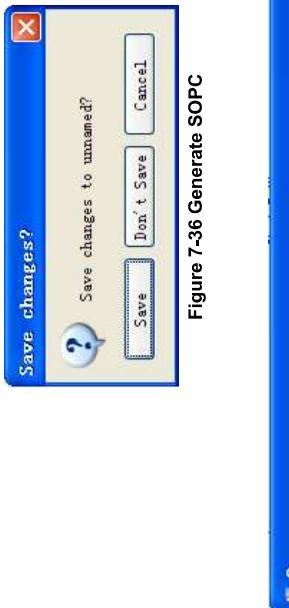
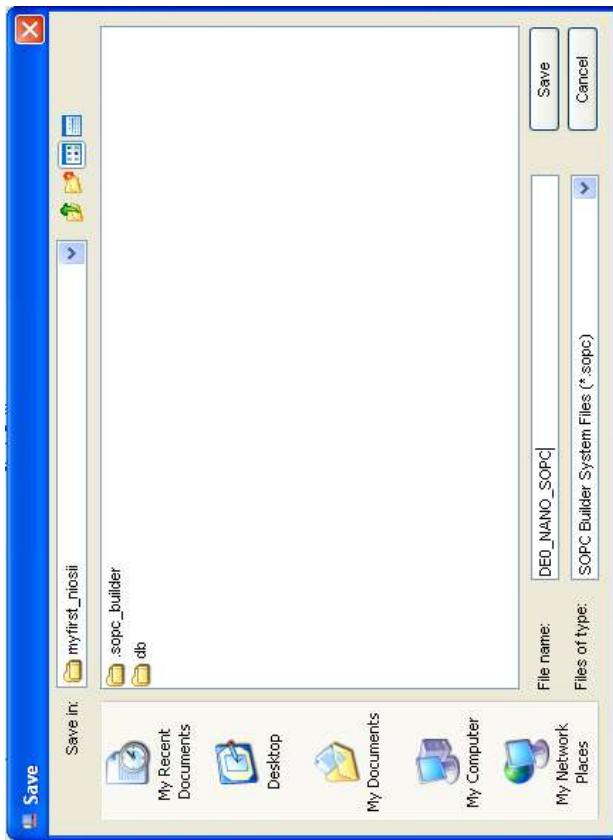

Figure 7-36 Generate SOPC
Figure 7-37 Generate SOPC
23. Click the Generate button, which will pop up a window, as shown in Figure 7-36. Click Save, which bring up the window in Figure 7-37. Input the name, **DE0\_NANO\_SOPC**, and click the save button. The compilation will automatically start. If there are no errors in the generation, the window will show a message of success, as shown in Figure 7-38.